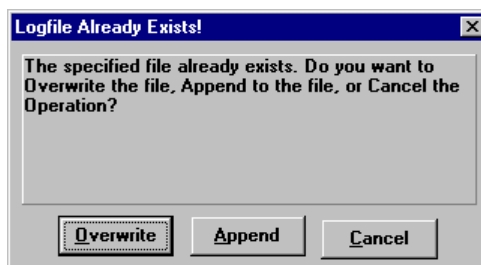

Figure 6-12. The Logfile Already Exists Message
- If you choose a logfile that already exists, the *Logfile Already Exists* message (Figure 6-12) appears, asking if you wish to overwrite the existing file or append the status messages to the end of the existing file. Choose Overwrite or Append to begin logging in the file or Cancel to close the dialog without opening the logfile.